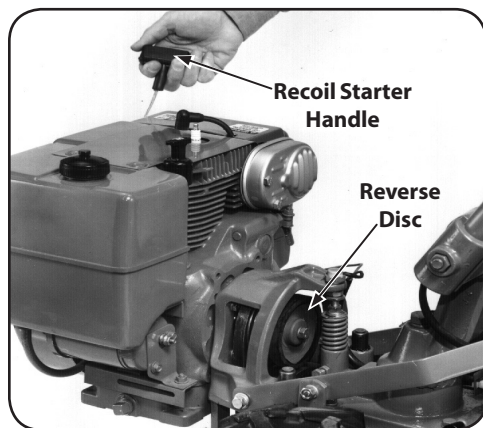

Figure 5-20
2. Place Wheels/Tines/PTO Drive Lever in NEUTRAL. Briefly pull out the engine recoil starter handle while watching the reverse disc. The disc should turn, but lower pulley should not. See Figure 5-20. If the reverse disc turns the lower pulley, or if it is located closer than $\frac{3}{16}$ " to the pulley, reverse adjustment bolt should be adjusted upward. Moving the adjustment bolt upward will also solve the problem of a tiller that goes into REVERSE on its own.